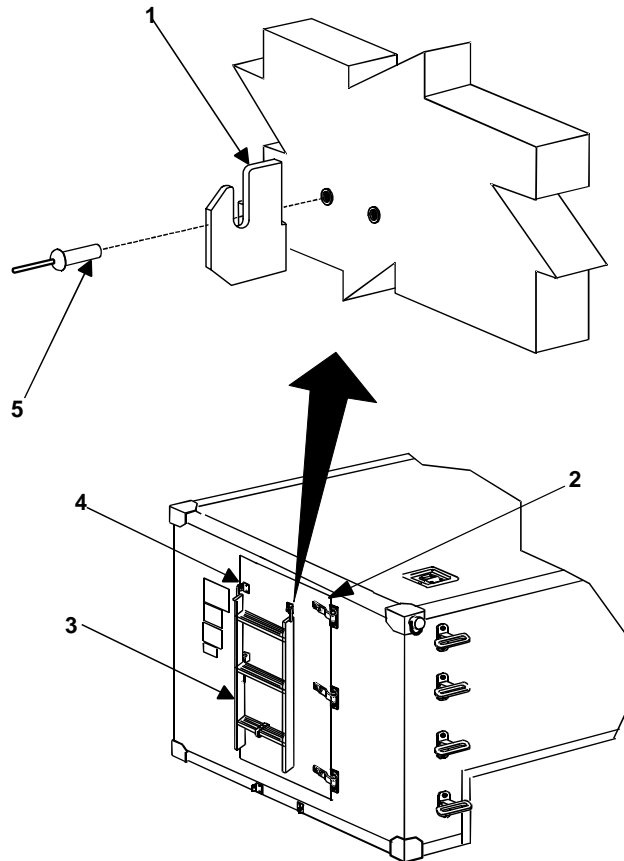

Figure 1. Stowed Ladder Brackets.
3. Remove two rivets (figure 1, item 5) securing roadside stowed bracket (figure 1, item 4) to door (figure 1, item 2). Refer to WP 0033 00 for direction on rivet replacement.
1. Locate roadside stowed bracket (figure 1, item 4) to door (figure 1, item 2) and secure using rivets (figure 1, item 5).
2. Locate curbside stowed bracket (figure 1, item 1) to door (figure 1, item 2) and secure using rivets (figure 1, item 5).